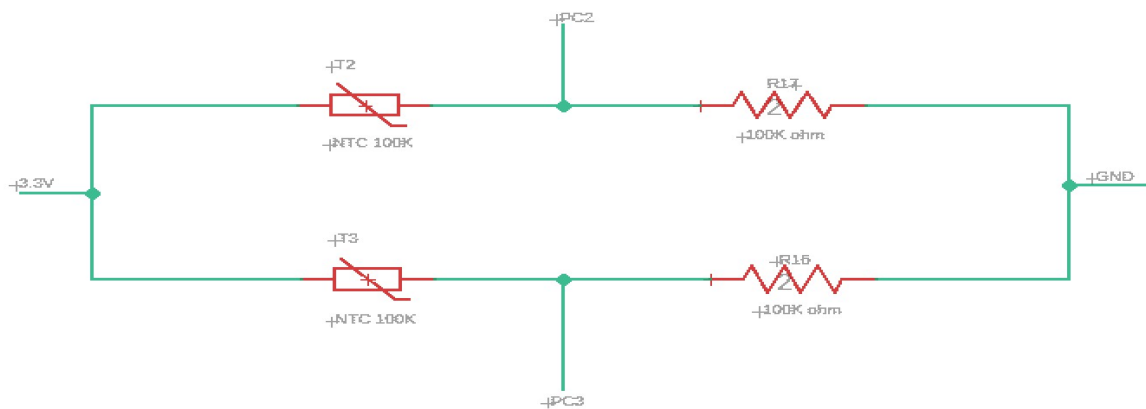

Fig. 4: Temperature measurement unit
i) The external structure is constructed using Aluminum 8011. The payload is to be mounted on the platform with the help of 6 x M5 HEX steel bolts ( See Fig. 4 ).